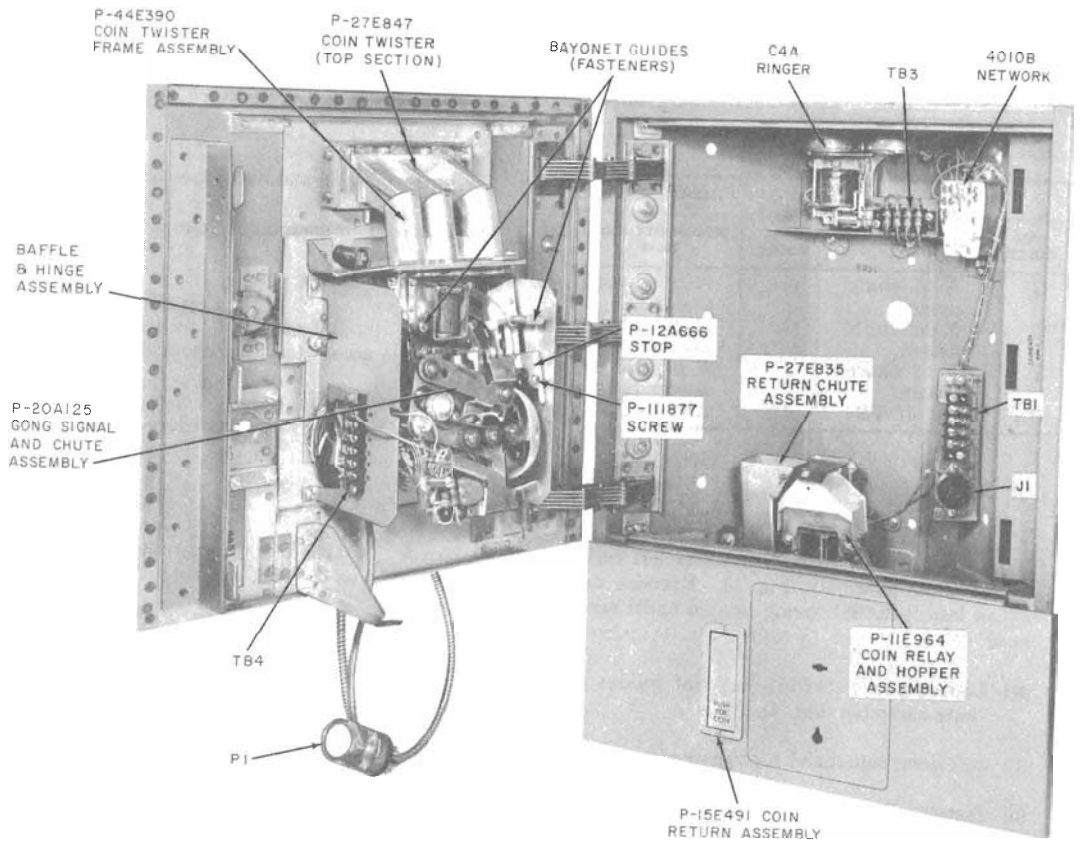

Fig. 5—235G or 1235G Coin Collector—Interior
**Note:** Do not open door fully until plug (P1) is disconnected (Fig. 5).
- (3) Open door approximately 3 inches and disconnect P1 from J1.
- (4) Door can now be fully opened.
- (1) Loosen screws in middle of twister assembly (Fig. 5).
- (2) Lift P-27E847 coin twister (top section) up and out.
- (3) Remove screws and nuts holding P-44E390 coin twister frame assembly (Fig. 5).
- (4) Lift frame assembly up and off.
- (5) Install, using reverse procedure.
(2) Remove P-111877 screw and P-12A666 stop (Fig. 5)
(4) Loosen two P-11E183 bayonet guides on chute assembly (Fig. 5).
(5) Lift gong signal and chute assembly off.
(6) Install, using reverse procedure.
**2.05** To remove baffle and hinge assembly (Fig. 5):